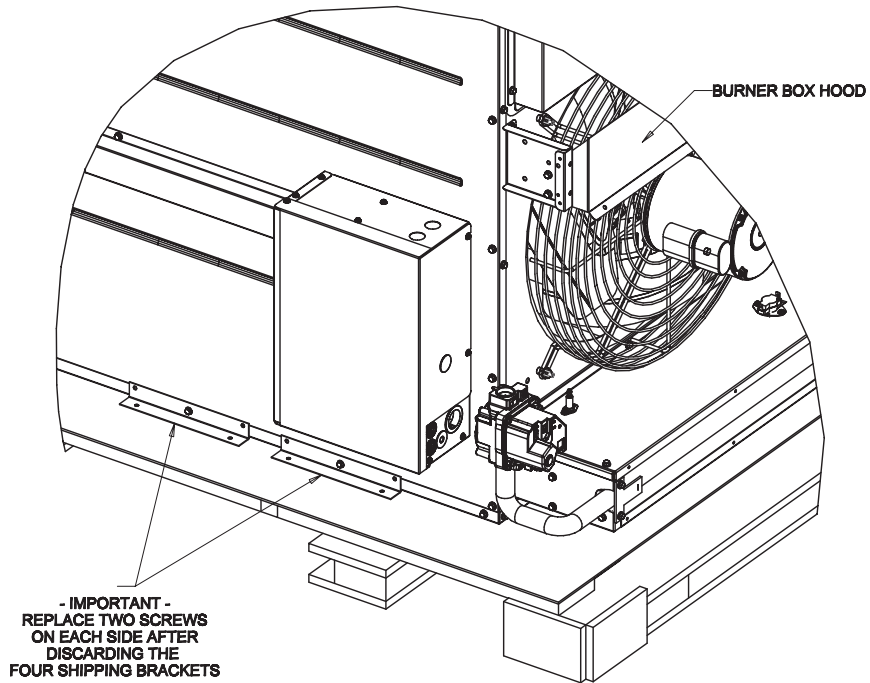

FIGURE 2
- 8 - Remove and discard the shipping brackets. Replace four screws on each side. See figure 2.